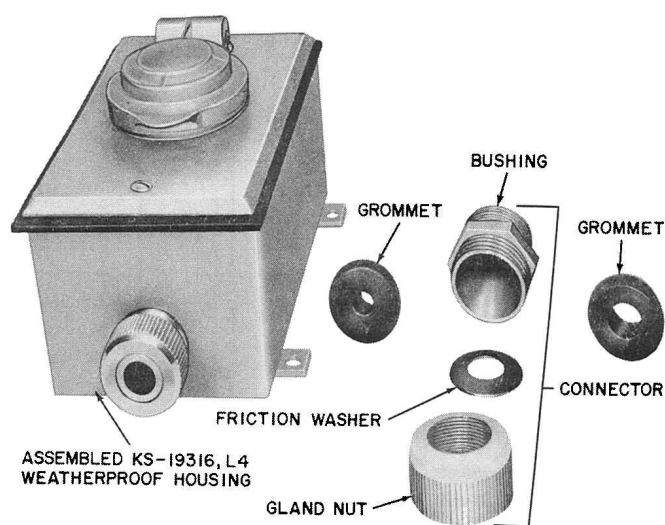

Fig. 30 — KS-19316, List 4 Housing and Components
3.10 The KS-19316, List 4 weatherproof housing (Fig. 30) combines the features of the List 1, 2, and 3 and is intended to supersede these housings. The List 4 housing consists of a waterproof box with reversible mounting lugs, bracket, rubber-gasketed cover, and watertight connector with two sizes of grommets for either 4- or 12-conductor cables. Mounting screws are provided.